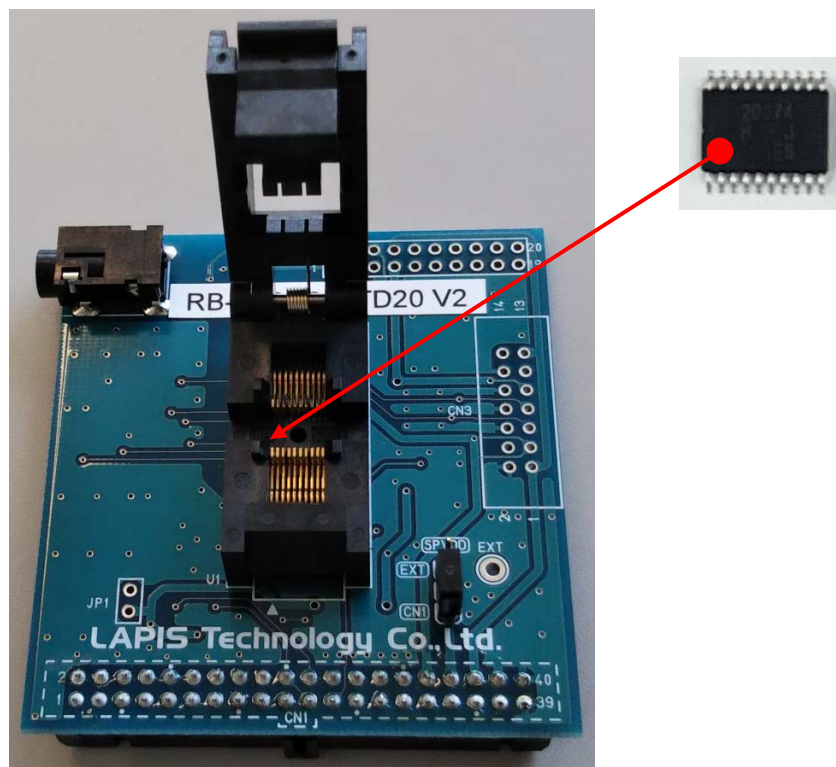

Figure 1 Outline Diagram
- Turn off the power when loading Speech Synthesis LSIs into the RB-S22Q394TD20 V2. Pin 1 is the position of the board silk ▲ at the bottom left with respect to the socket opening. The Figure 1 shows the setting directions of Speech Synthesis LSIs.